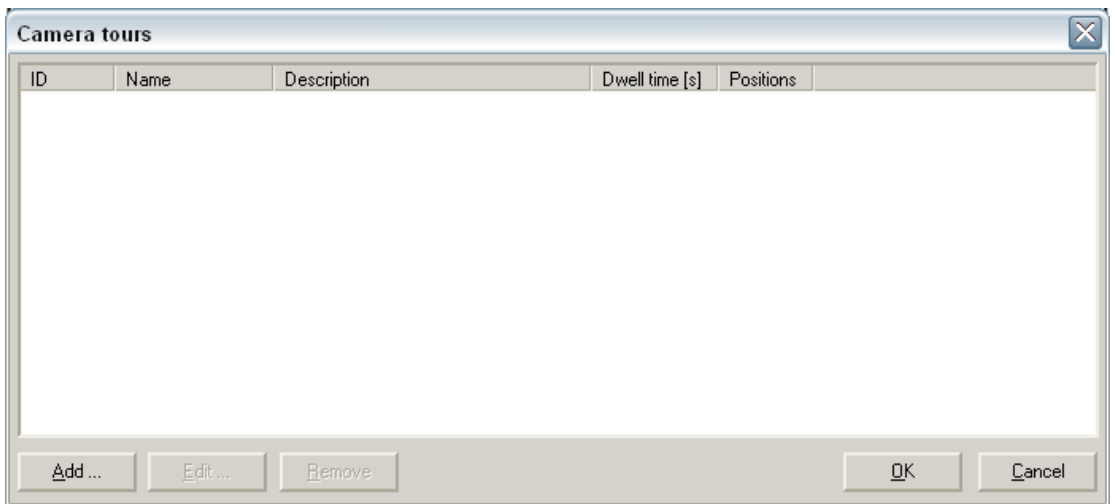

Figure 8-13: Camera tour dialog box
After pressing the button, the dialog box for configuration of the camera tours is opened (figure 8.13). It contains a list of tours that have already been defined. If no tour definition has been made to date, an empty list is displayed. At the bottom edge of the dialog box, you will find the button "New".
- From there, the dialog box from **figure 8-13** will open.